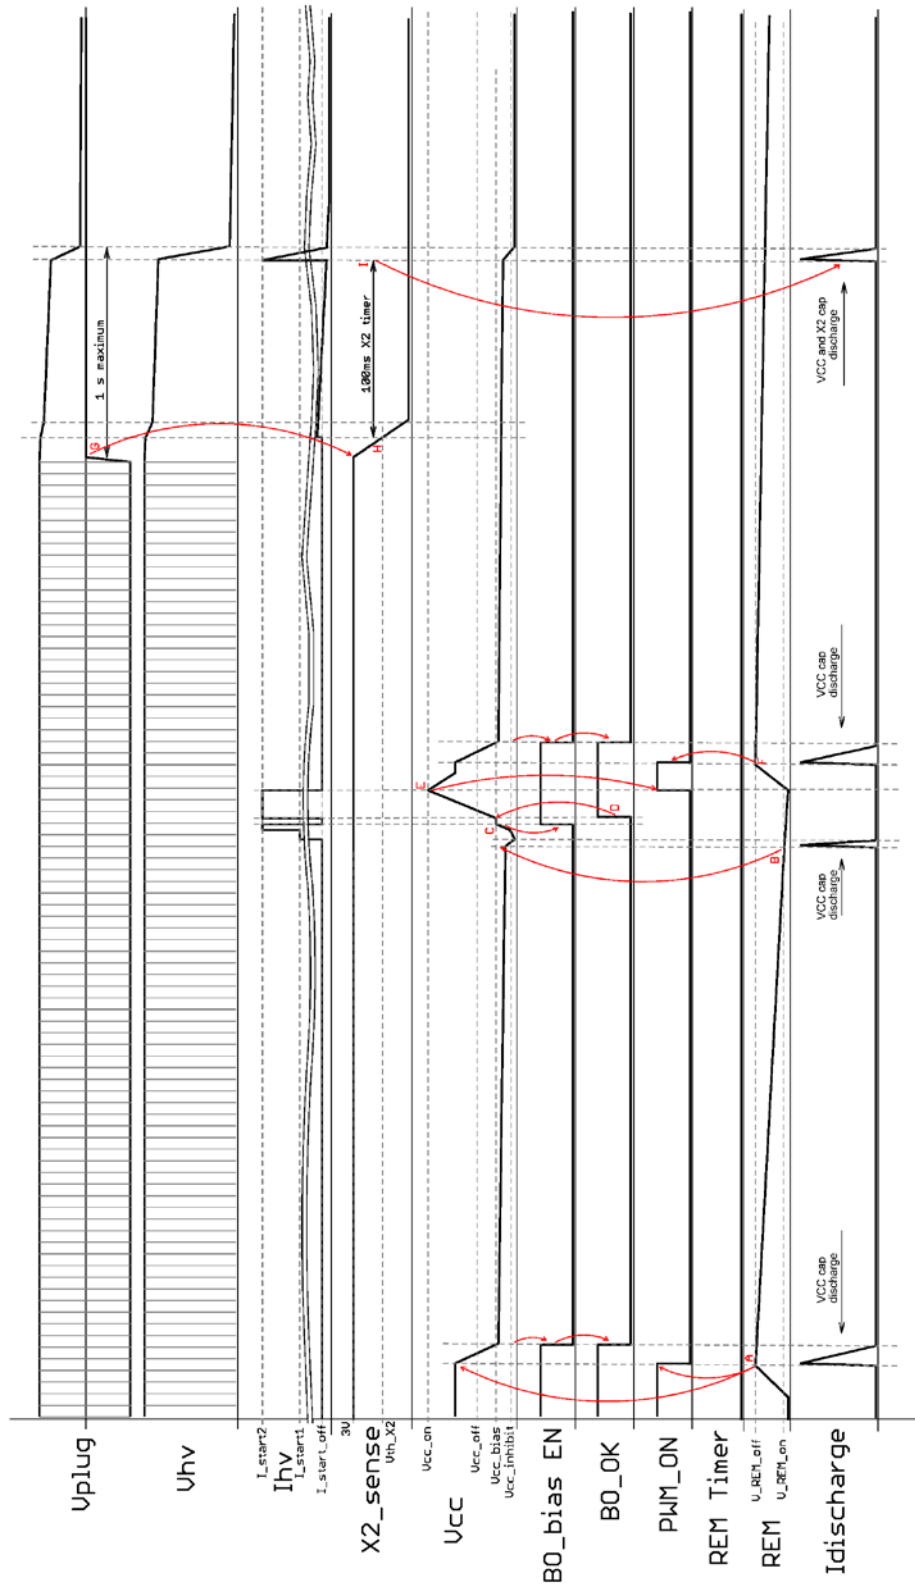

Figure 48. IC Operation Sequencing – Case 3 (Active ON)
3. Off-mode operation – restart by primary remote discharge then AC line off – Figure 48: